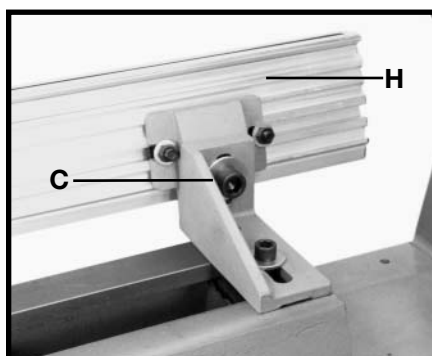

Fig. 27A
7. Mount duplicator assembly (H) Fig. 27A to mounting bracket (C) at the other end of the lathe in the same manner. **Tighten all mounting hardware.** Replace tailstock on the machine.